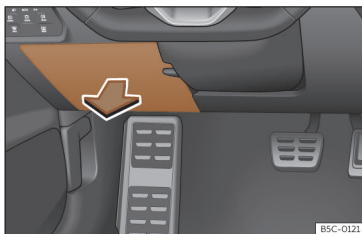

Fig. 219 On the dashboard on the driver side: lid of the fuse box.
- *Open*: fold the cover down >>> **Fig. 219**.